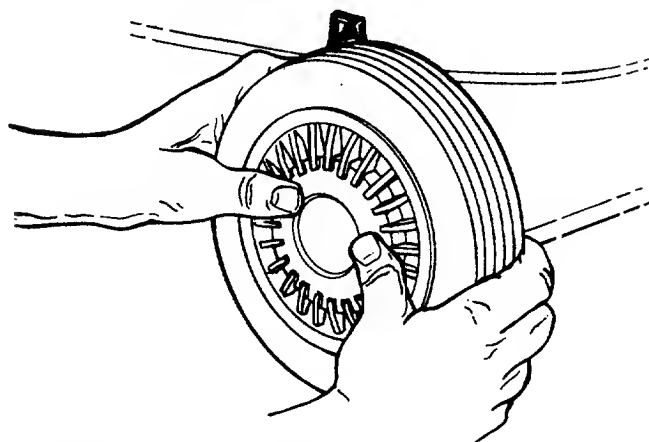

FIGURE 9.—Optional Hub Caps
2. If your mower is equipped with 2" wide tires, place hub caps in position against the inner hub of the wheel. Press firmly around the center portion of hub cap in a circular motion, similar to installing a lid on a round, plastic container. See figure 9. The hub caps are flexible and will snap over the 3½" diameter wheel hubs.